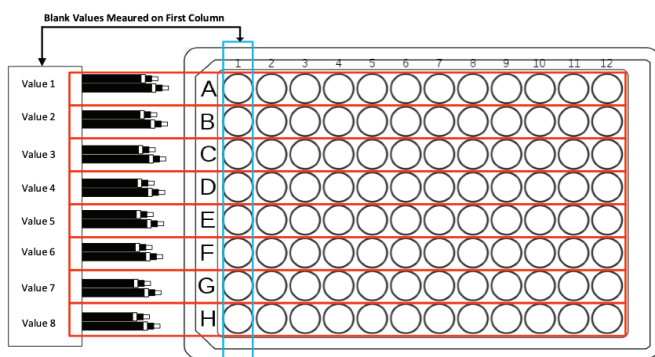

Fig. 62—The values of the blanks are measured to determine the baseline resistance without any cells. This figure shows an array of 96 wells.
- Select your blank option. This option measures the resistance of the first column (Wells A1, B1, C1... H1), and this value is used as a baseline for each row. Each value on the *Blank Value* table measures the resistance of the specific electrode pair used to measure each column on a well containing only buffer or media. (See the column highlighted in blue in Fig. 62.) These values (Value 1 ... Value 8) are subtracted from the measurements on the corresponding row (Red Rectangles) to obtain the change from the baseline well (the well with no cell growth) to omit any offset or background values.